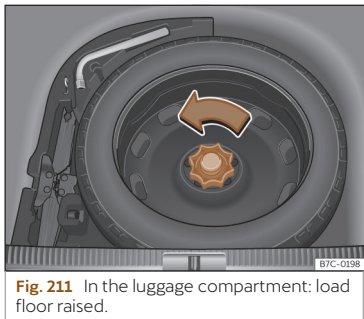

Fig. 211 In the luggage compartment: load floor raised.
- Turn the thumb wheel anti-clockwise »» **Fig. 211**.